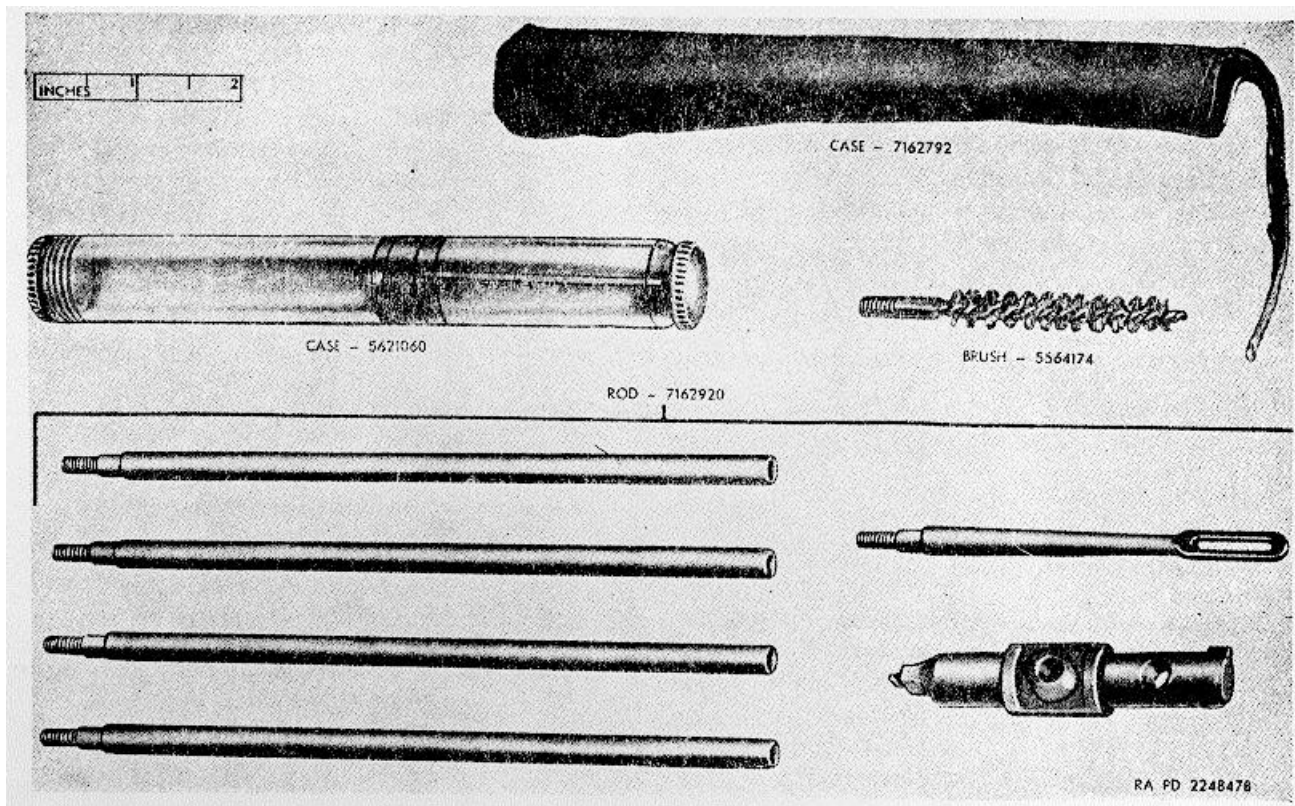

Figure 42. Special tools and equipment (Winchester rifle model 70).
*d. After Firing.* The cleaning procedures prescribed in (1) through (4) below are to be followed at the end of the day's firing. If no further firing is anticipated, it is to be repeated on two consecutive days thereafter.
- (1) *Bore and chamber of all rifles.* Place flannel cotton patches in slot of rod and saturate with rifle-bore cleaner, and move through the barrel several times. If rust or foreign matter is not removed by the cleaner, attach the brush 5564174 (fig. 42) and move it several times through the